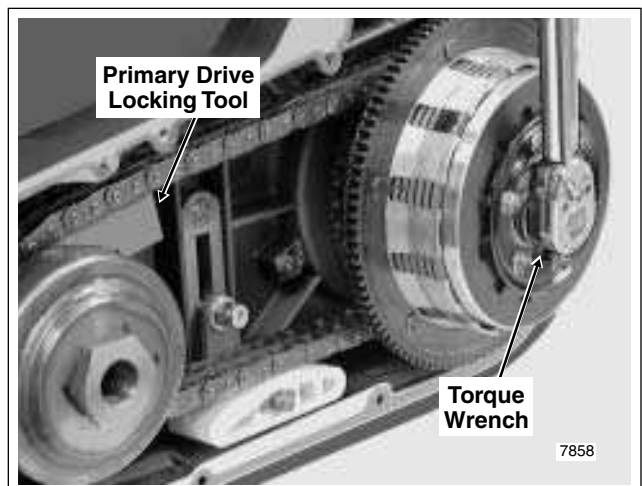

Figure 6-31. Place Primary Drive Locking Tool and Torque Clutch Hub Mainshaft Nut
14. Reverse the position of the primary drive locking tool. With the flat side against the upper strand of the primary chain, insert stepped side of tool into teeth of engine compensating sprocket. Using torque wrench and 1-3/16 inch socket, tighten clutch hub mainshaft nut to 70-80 ft-lbs (95-108 Nm). See Figure 6-31.